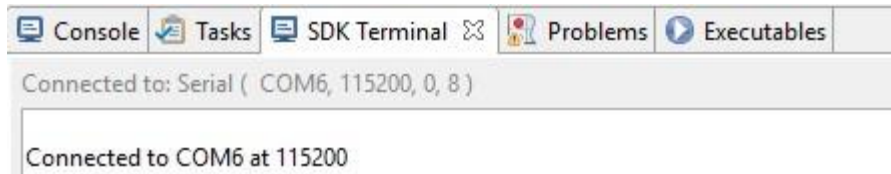

Figure 34: Terminal connection verification.
10. Verify the Terminal connection by checking the status at the top of the tab (Figure 34).